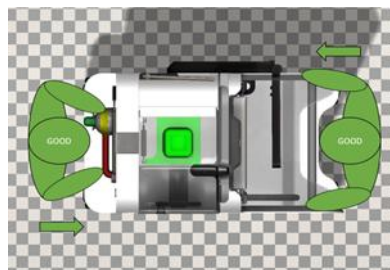

Figure 164: Good handling
- Push or pull ATS by handles in the direction of axis (See Figure 164).